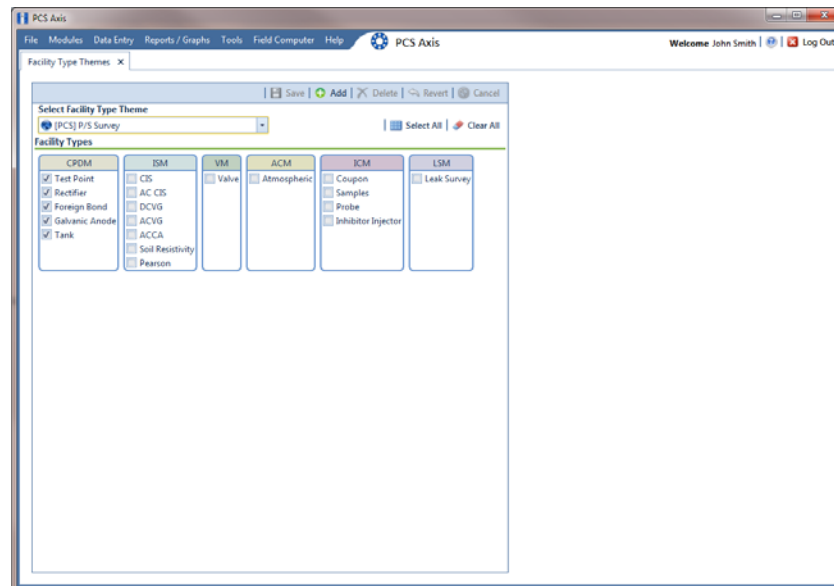

Figure 15-1. Facility Type Themes
- 1 Click **Tools** > **Facility Type Themes** to open the *Facility Type Themes* window (Figure 15-1).
- Click the check box for each facility type you want to add, then click  **Save**. A check mark inside a check box indicates a selection (Figure 15-1).